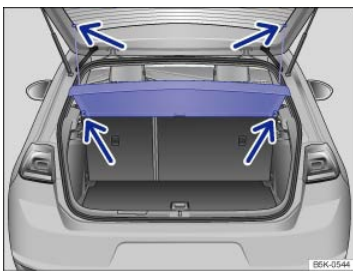

Fig. 100 In the luggage compartment: Installing and removing the luggage compartment cover.
- Unhook the supporting cords from each side of the trunk lid ⇒ Fig. 100 (top arrows).
- Push the luggage compartment cover upward from below ⇒ Fig. 100 (bottom arrows) until it releases from the side brackets.
- Press the luggage compartment cover into the side brackets from above ⇒ Fig. 100 (bottom arrows).
- Hook the supporting cords onto the trunk lid ⇒ Fig. 100 (top arrows).